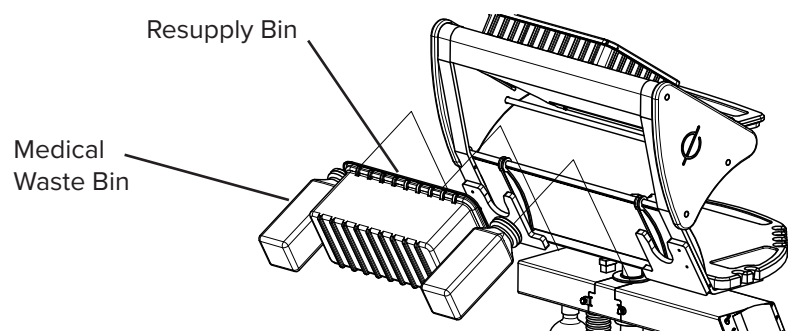

Fig 6.2
1. Slide your Resupply Bin in between the med waste holders. Slide the Med Waste Bins into the med waste holder slot (Fig 6.2).